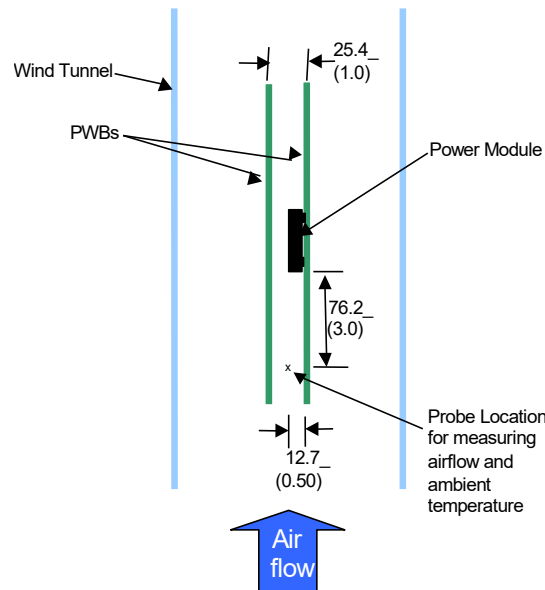

Figure 28. Thermal Test Setup.
Power modules operate in a variety of thermal environments; however, sufficient cooling should always be provided to help ensure reliable operation. Considerations include ambient temperature, airflow, module power dissipation, and the need for increased reliability. A reduction in the operating temperature of the module will result in an increase in reliability. The thermal data presented here is based on physical measurements taken in a wind tunnel. The test set-up is shown in Figure 28. The preferred airflow direction for cooling the module and the thermal reference points, T_{ref} used in the specifications are shown in Figure 29. For reliable operation the temperatures at these points should not exceed 120°C (IC100) and 115°C (C102). The output power of the module should not exceed the rated power of the module ($V_{o,set} \times I_{o,max}$). Please refer to the Application Note “Thermal Characterization Process for Open-Frame Board-Mounted Power Modules” for a detailed discussion of thermal aspects including maximum device temperatures. Increased airflow over the module enhances the heat transfer via convection. The thermal derating of figures 2, 8, 14 and 20 show the maximum output current that can be delivered by each module in the indicated orientation without exceeding the maximum T_{ref} temperature versus local ambient temperature (TA) for several air flow conditions. The thermal derating curves were generated using a 12 layer evaluation board with 3oz copper in inner layers and 2 oz in outer layers.